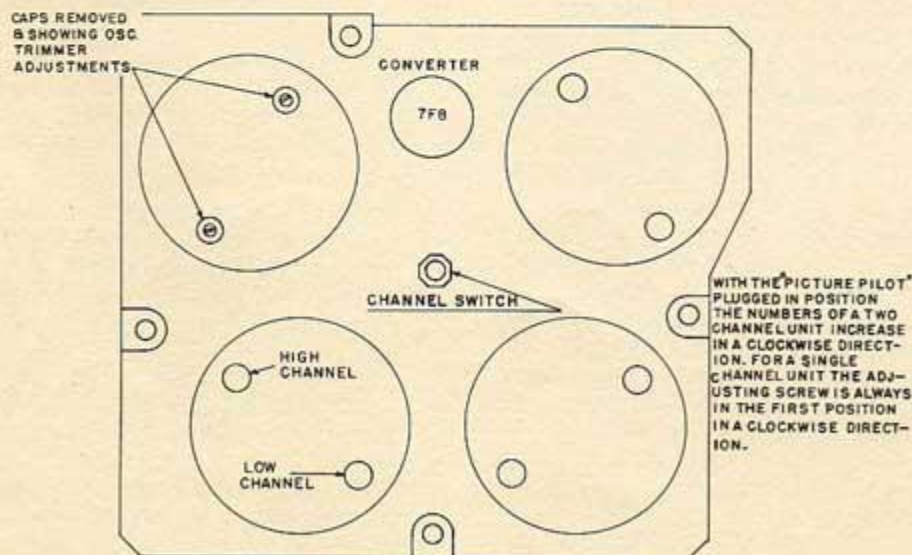
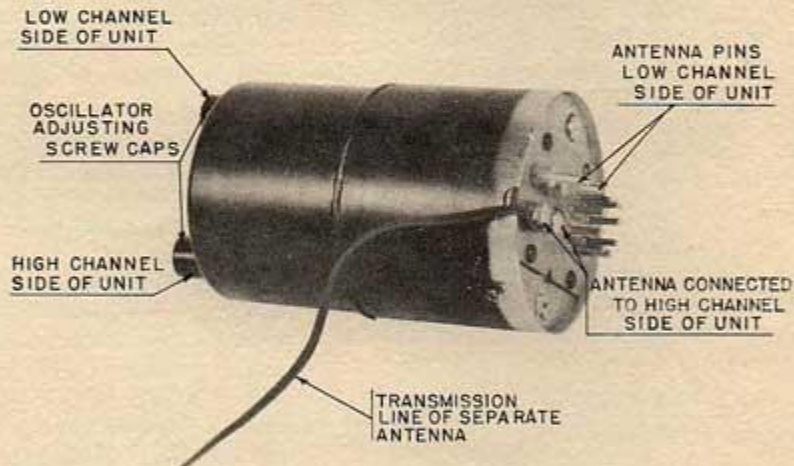

Fig. 6 - Showing Location of Oscillator Trimmers "Picture Pilot"
Fig. 8 "Picture Pilot" Showing Separate Antenna Connections
- (1) With channel selector switch in blank position, operate receiver with Picture Pilot plugged in place for 20 to 40 minutes.
- (2) At the end of the warm up period unscrew the cap on top of the Picture Pilot. See Fig. 6 and Fig. 8.
- (3) Turn Channel selector switch to the desired station and, if necessary adjust the oscillator trimmer screw until the television sound signal is heard.
- (4) Reduce the signal strength to the receiver by adding a resistive attenuator, until hiss is heard together with the desired signal. Then adjust osc. trim. screw for minimum hiss without tuning out the desired signal.
- (5) Screw the cap on tightly.
- (6) Repeat the above for all available channels.
There are two antenna pins for each channel (4 pin plug) located on the underside of the "Picture Pilot." Unscrew the two antenna pins for the channel to which the extra antenna is to be connected. Fasten the leads of the 75 ohm transmission line to the two screws with two No. 4 nuts. See Figure 8. Do not replace the two pins. This disconnects the picture pilot from the antenna switch, and allows it to be connected to the supplemental antenna at all times.